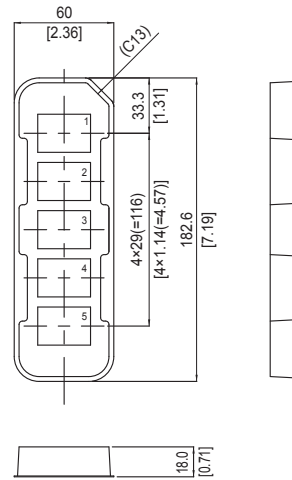

Fig.8.1 Delivery package information
■Please refer to Figure 8.1 for the packaging format (tray).